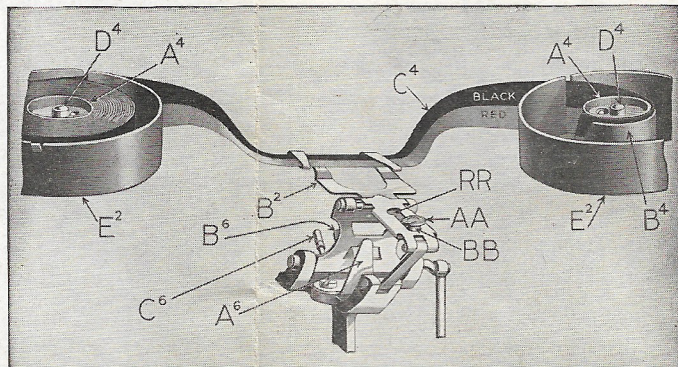

Figure 8. THE RIBBON SPOOL
The ribbon should be properly placed in the ribbon carrier (B²), (Fig. 8), with red nearest to keyboard. Pressing the small metal button (AA) and moving same to positions (BB) or (RR) (Fig. 8), enables one to write in black or red, respectively, as desired.
Where single color ribbon is used, the button (AA), (Fig. 8) enables the operator to shift the wearing surface of the ribbon from (BB) to (RR) or vice versa, so as to secure uniform wear and maximum ribbon service.
See Fig. 8. Width of ribbon should be $\frac{9}{16}$ of an inch. Wind the old ribbon on one spool, either left or right, then remove empty spool (A^4) and detach from ribbon by removing ribbon-clip-spring (B^4), saving empty spool and clip. (A new ribbon comes wound on its own spool.) Place the new spool and ribbon in box on shaft (D^4), so that the ribbon will feed from the rear of the spool. If a bichrome ribbon is to be used, place in box with the red color below. Draw the ribbon through the slot in the rear of the box, replace cover on the box, fitting it tightly in its place, pass the ribbon across the machine, and fasten on the empty spool by means of the ribbon-spool-clip (B^4). Pass the ribbon through the slot of this box, and place the spool in its proper position in the box on shaft (D^4), as in the first instance. Put the cover on, taking care that there is no twist in the ribbon, and that the smaller of the two notches in the ribbon-box-cover fits over the small projection on front of the ribbon-box. This brings the wide notch in cover over the slot in rear of box through which the ribbon feeds, and permits free action. Pass the upper edge of the ribbon
into the ribbon carrier (B^2), (Fig. 8), far enough so that the edge toward the keyboard will catch in the hooks on the under sides of the prongs of carrier (B^2). This prevents ribbon from slipping out. When using bichrome ribbon,